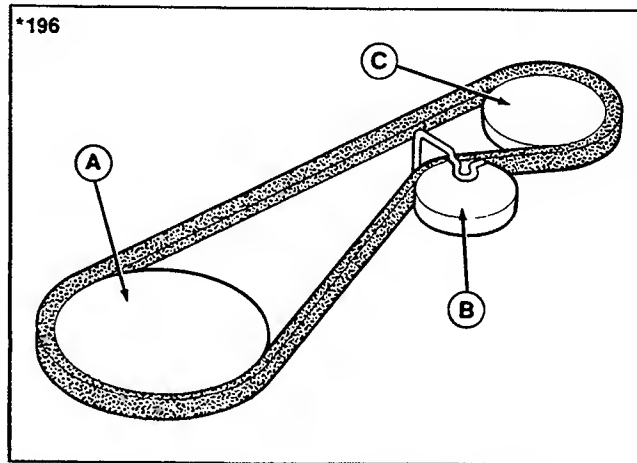

Figure 26. Belt Pattern - 26" & 30" Mowers
8. Install the new belt and reverse the removal procedure. The belt pattern is shown in figure 26 or 27. Check belt stop adjustments.